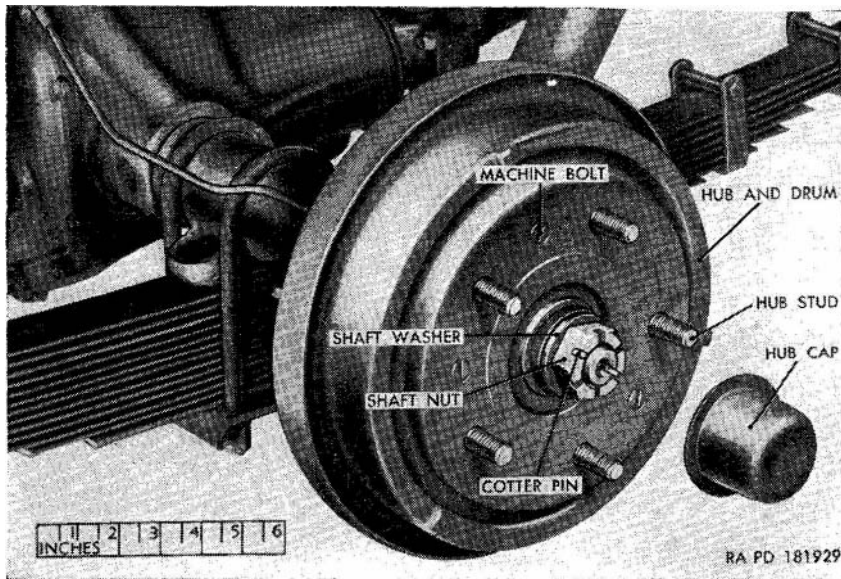

Figure 146. Rear axle with brake, hub, and drum assemblies—hub cap removed.
- (1) Remove the wheel (par. 250a).
- (2) Pry off the hub cap and remove the cotter pin, shaft nut, and shaft washer (fig. 146).
- (3) Using a suitable puller, pull the hub, drum, and key from the shaft.
- (8) Connect the brake line to the brake wheel cylinder,
- (9) Place the hub and drum (*fig. 146*) on the shaft, with the hub keyway aligned with the shaft keyway. Insert the key into the keyway and tap the key and hub and drum into position on the shaft.
- (10) Place the shaft washer on the shaft, screw the shaft nut on the end of the shaft and secure the nut with a  $\frac{1}{8}$  x 11/, cotter pin.
- (11) Install the wheel (par. 250b ), and lower the vehicle to the ground. Bleed the brakes (par. 237).